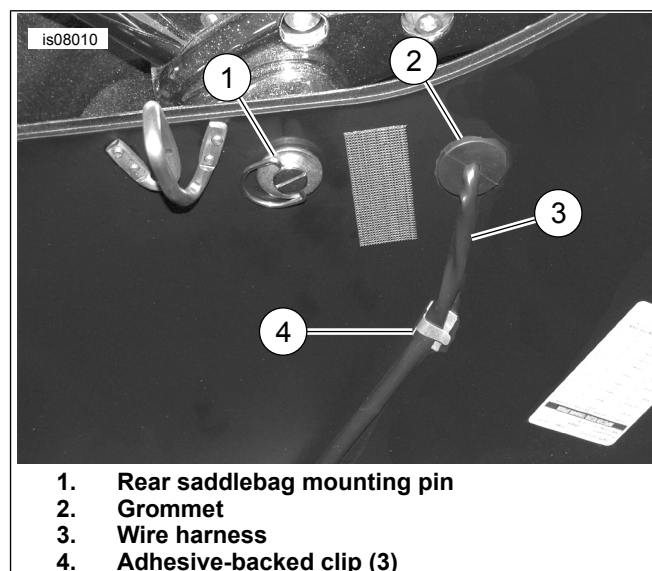

Figure 1. Wire Routing Inside Saddlebag
6. If equipped, remove the saddlebag liner. See Figure 1. Measure approximately 70 mm (2.75 in) on center forward from the rear saddlebag mounting pin location, and affix a strip of masking tape to the **inside** wall of the saddlebag at that location. Mark the location on the tape with a center punch, then:
8. Install one of the rubber grommets (2) in the hole.
9. Attach the light wires to the inside of the saddlebag around the bottom with adhesive backed clips (4) and route the wires up the inner wall of the saddlebag and out through the grommet.